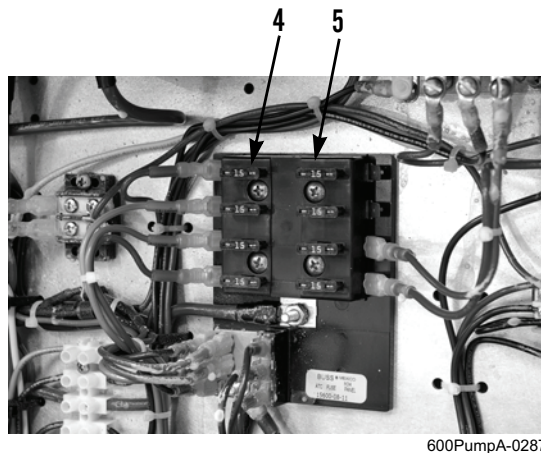

Figure 2. Fuse Block.
1. Remove fuse (Figure 2, Item 4) from fuse block (Figure 2, Item 5).
2. Install fuse (Figure 2, Item 4) in fuse block (Figure 2, Item 5).